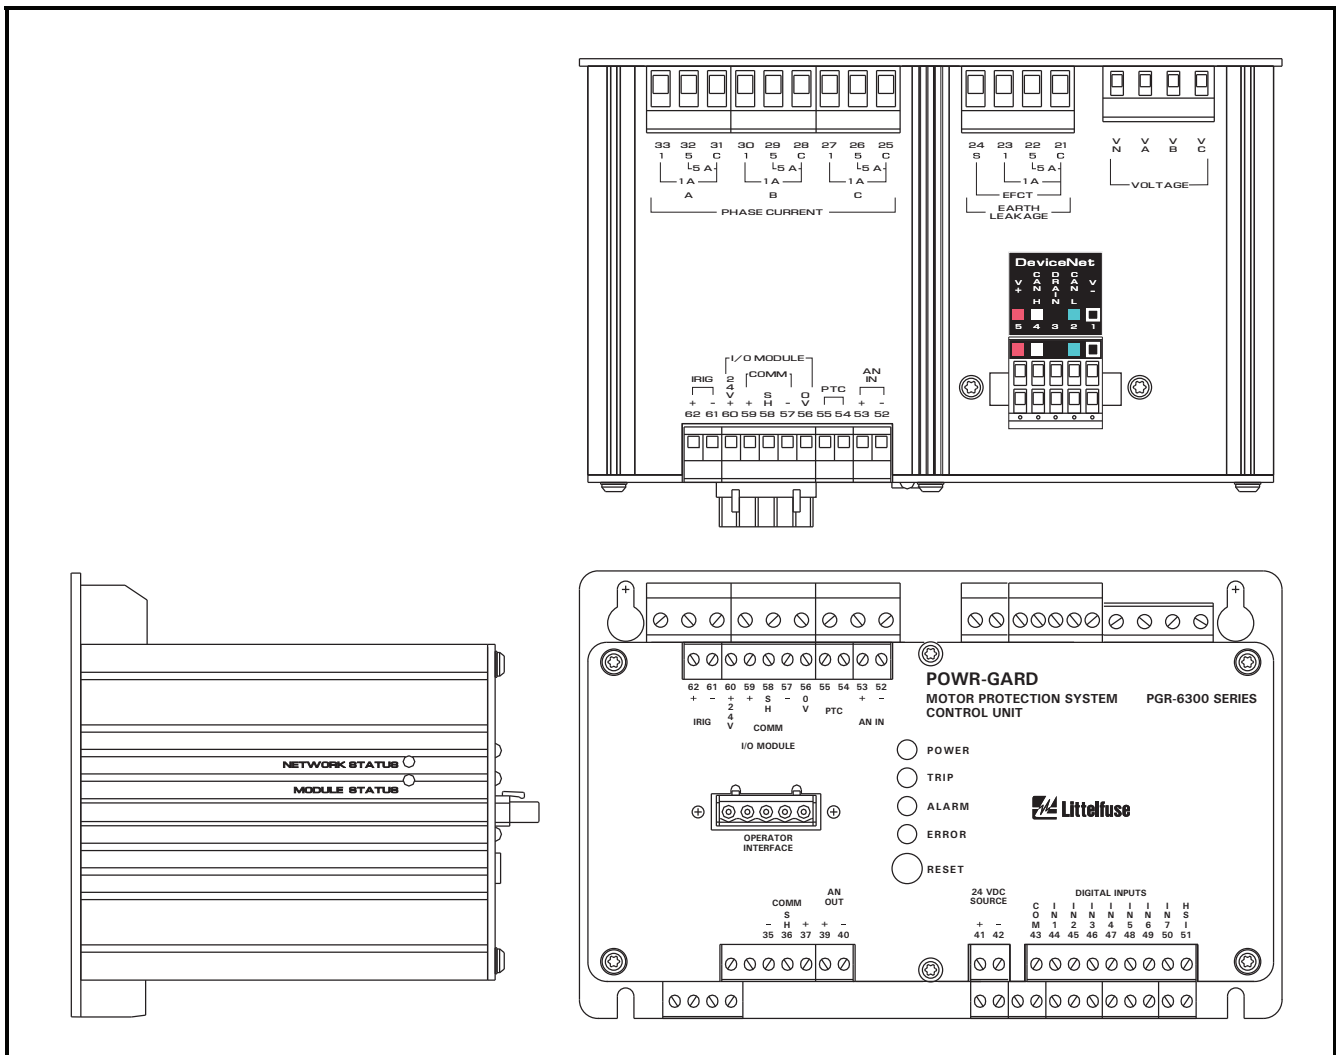

FIGURE 1. Outline Drawing.
Two LEDs labeled MODULE STATUS (MS) and NETWORK STATUS (NS) are located on the left side of the control unit as shown in Fig. 1. The MS LED is green when the DeviceNet driver is operational. If this LED is off, verify that *DeviceNet* is selected from the *Setup | Hardware | Network Comms | Network Type* menu.